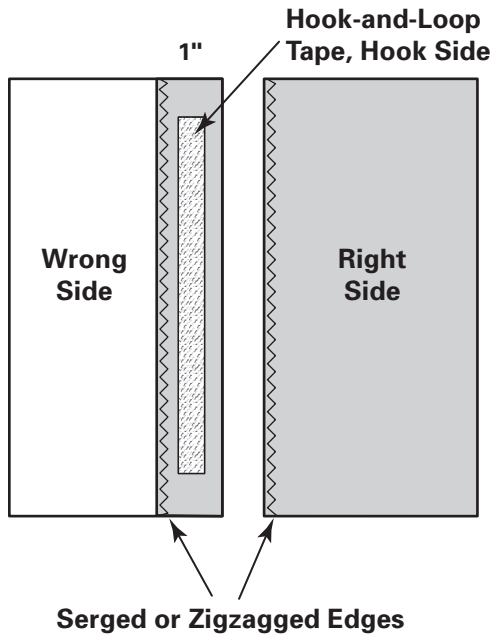

Fig. 19-3
- For the back panels, finish one 19-inch (48.5-cm) edge of each rectangle with serging or zigzag stitches. Press the finished edge of one rectangle under 1 inch (2.5 cm) and topstitch in place about $\frac{3}{4}$ inch (2 cm) from the outer folded edge. Center the hook side of the hook-and-loop tape on the turned-under edge. (Fig. 19-3) Stitch the hook tape in place along the tape edges.